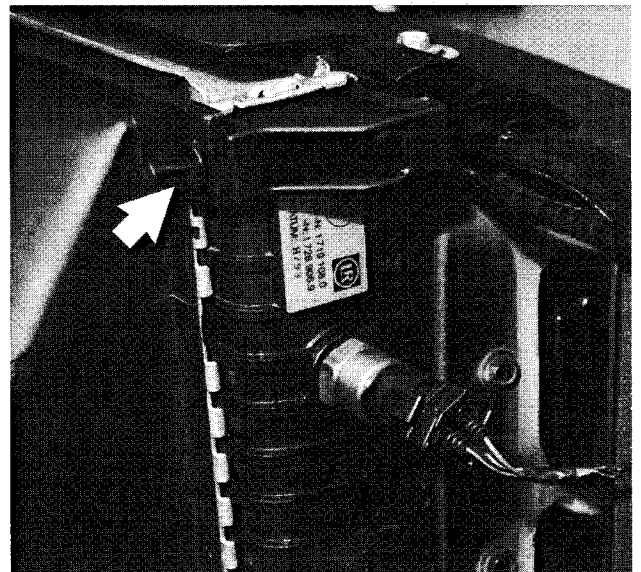

Fig. 9. Fan shroud retaining rivet (arrow). Pry out center pin and remove rivet. Rivet design may vary depending on model and model year.
2. Remove expansion rivets holding shroud to radiator. See Fig. 9. Remove fan and shroud together.